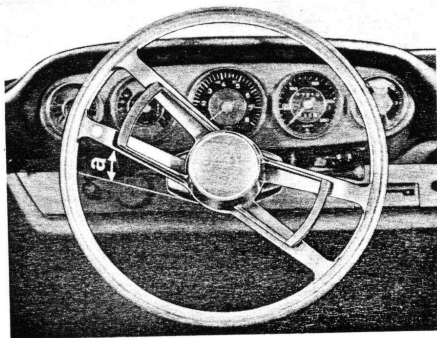

Fig. 7
2. Holding the steering wheel against the stop, note the position of the lower spoke in the steering wheel in relation to the switch panel this will be dimension "a". Mark this spoke with chalk as shown in Fig. 7.